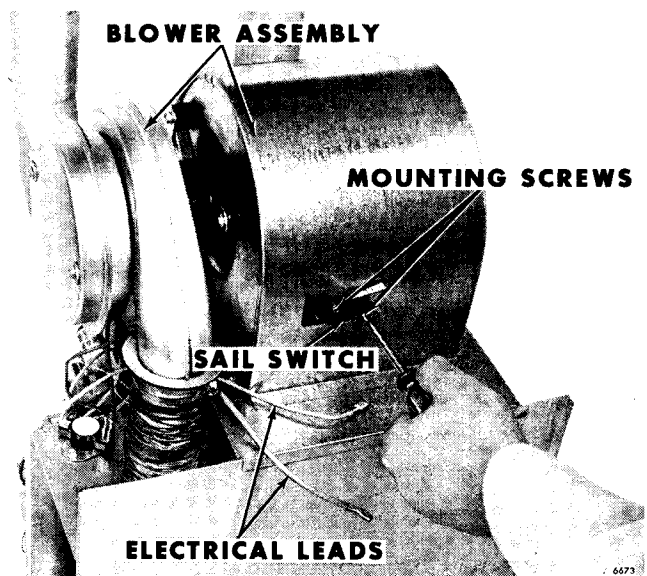

Figure 14—Removing Sail Switch
**NOTE:** The sail switch (also sometimes called combustion air switch) is located on the bottom of the blower assembly (figure 14).
2. Disconnect electrical leads from sail switch (figure 14).